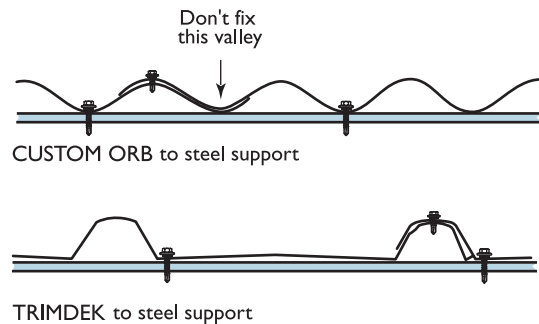

Figure 8.4.1
- there is no risk of the profile being deformed, because the fastener is placed through the cladding where it rests flat against its support (Figure 8.4.1); and
Side-lap fasteners are located in the centre of the crest of the overlapping rib (Figures 8.4.1 and 8.4.2)